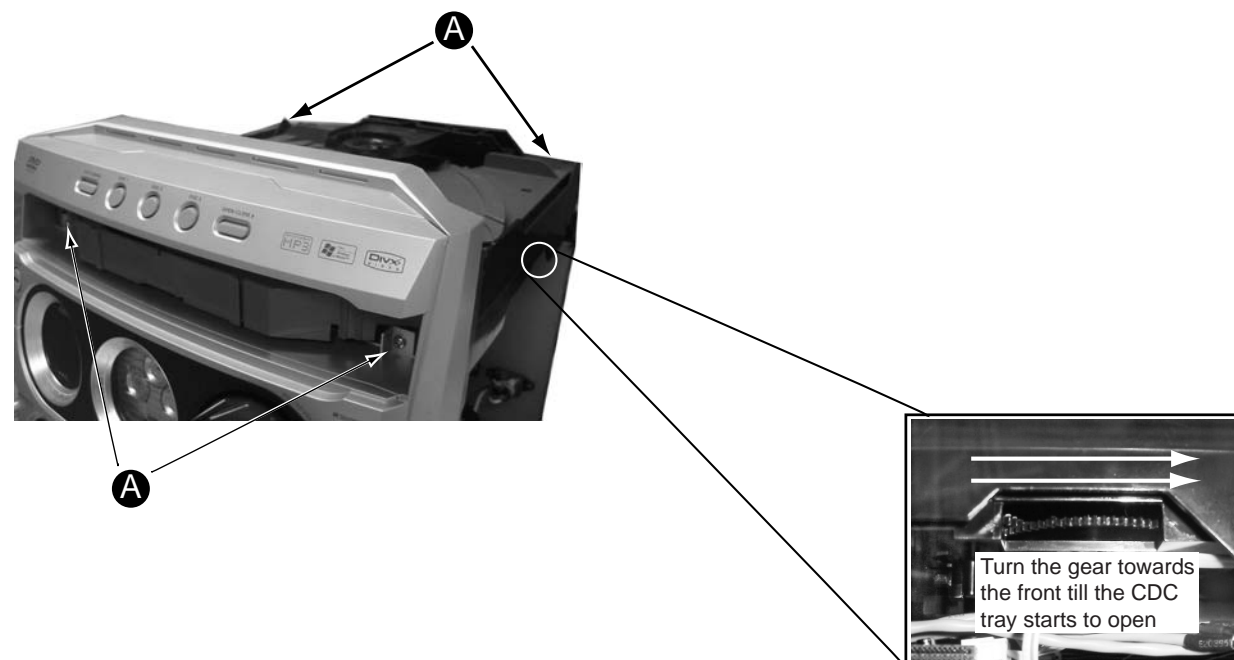

Figure 3
- 1) Loosen the 4 screws, slide Cover top (pos 255) towards the rear and remove it upwards.
- 2) Push the gear slowly towards the front as shown in figure 3 until the CDC tray starts to move out of the Front Cabinet. The CDC tray is now disengaged and can be pulled out completely.
- 3) Push the gear slowly towards the front as shown in figure 3 until the CDC tray starts to move out of the Front Cabinet. The CDC tray is now disengaged and can be pulled out completely.
- 5) Loosen 4 screws A to remove the CDC Module (pos 1105) as shown in figure 3.